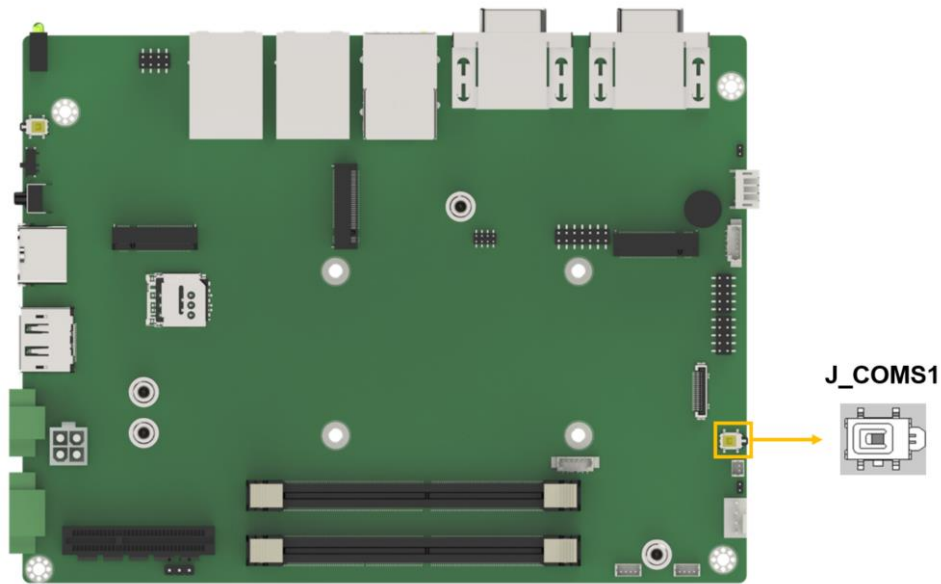

Figure 3-30: Clear CMOS Location
- CN Location: See Figure 3-30